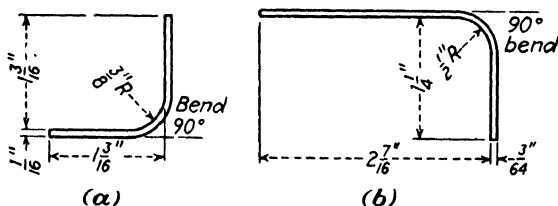

Fig. 251.
2. Find the bend allowance and over-all length of the flat patterns of the fittings in Fig. 251. Observe that in (a) one outside dimension is given.